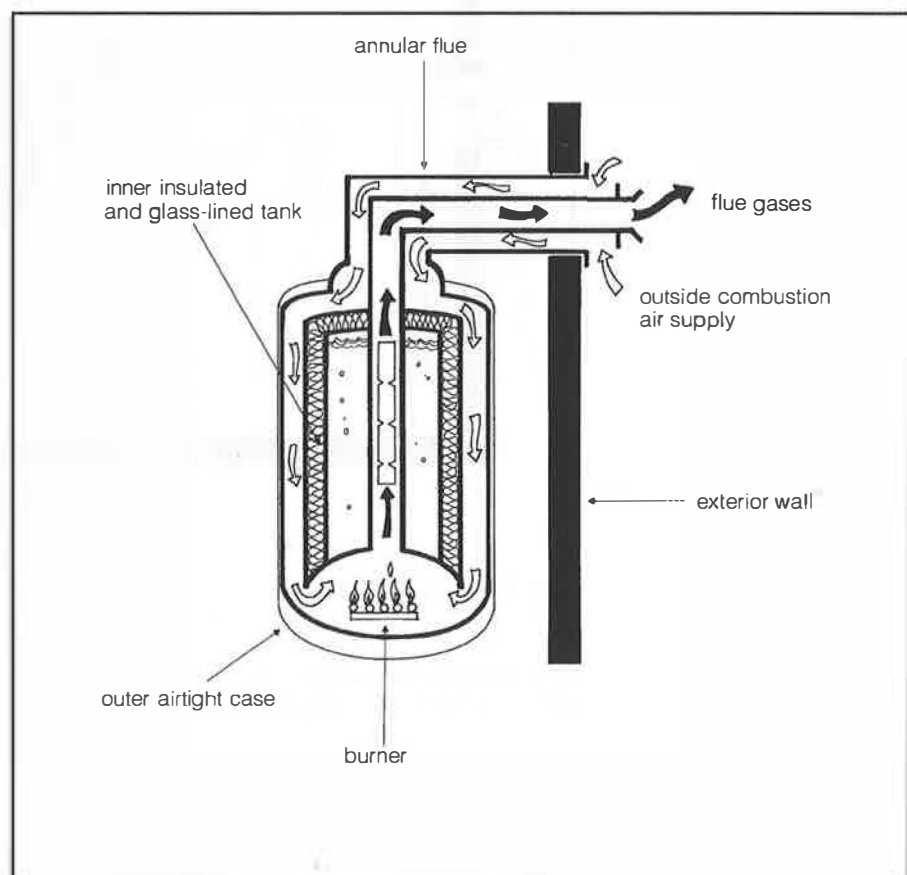

Fig. 10. Direct-vent gas hot water tank
- Use a sealed combustion gas-fired water heater or boiler (fig. 10). This type of device isolates the combustion venting system from the interior of the house. The water heater or boiler is side-vented and must be located next to an outside wall. If a side vented appliance is used in conjunction with an induced-draft furnace, the B-vent going through the roof can be eliminated.